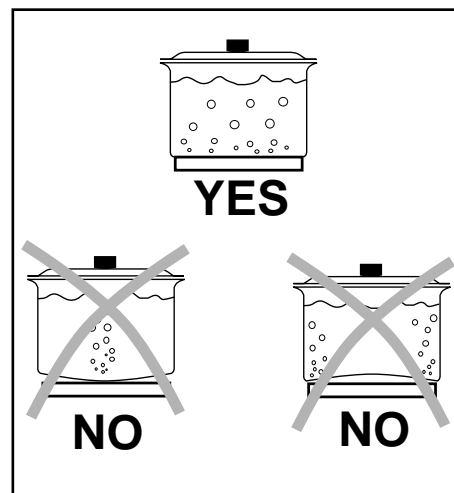

Fig. 2
- they should have a flat base to ensure good contact with the plate (Fig. 2).